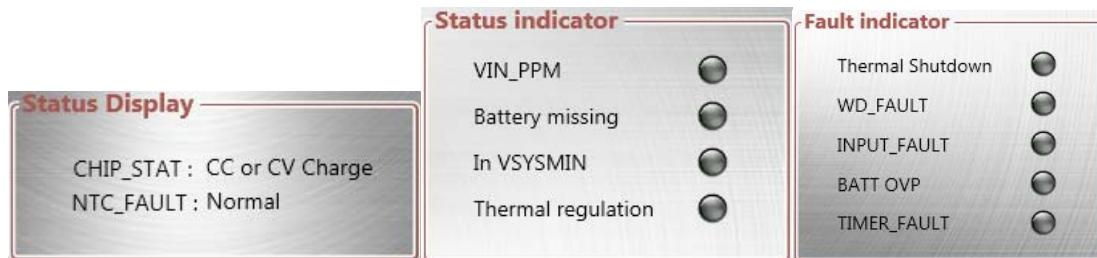

Figure 7: Status and Fault Report for the MP2672A
4. Set the balance parameters (see Figure 7)
- Monitor the registers to obtain the MP2672A's operation status and fault report (see Figure 7).